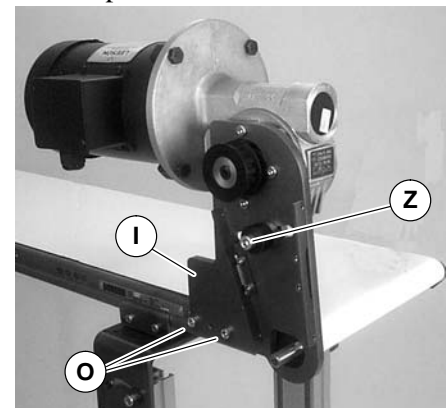
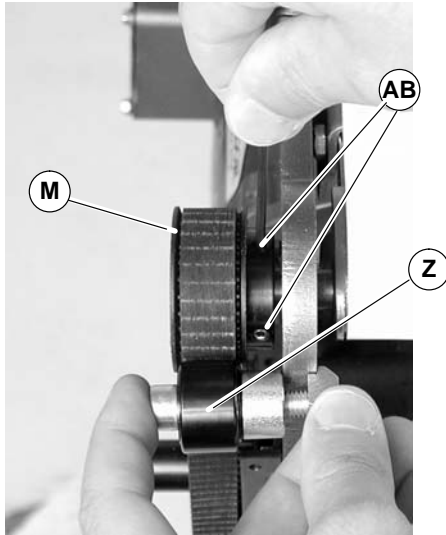

Figure 11
Figure 16
4. Attach mount assembly (I of Figure 11) with screws (O). Tighten to 80 in-lb (9 Nm). For 4100 conveyors, proceed to step 7.
8. Wrap timing belt (P) around driven pulley (M) and drive pulley (J). Install driven pulley (M) onto conveyor shaft.
9. Remove cam bearing and spacer (Z of Figure 11). Place the cam bearing and spacer (Z of Figure 16) next to the driven pulley (M). Ensure the flanges of the driven pulley are aligned with the cam bearing. Tighten driven pulley set screws (AB). This will allow for proper belt alignment while conveyor is in use. Install cam bearing and spacer (Z).